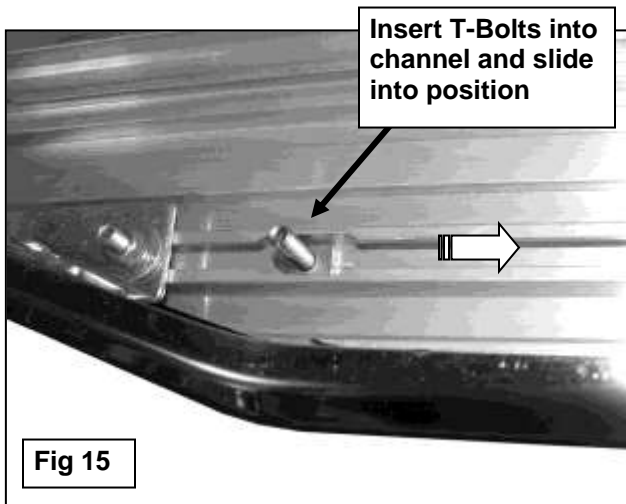

Fig 15
10. Carefully unwrap the Running Boards and select the driver side. Insert (6) 6mm T-Bolts into the slots in the end of the channels, (3 T-Bolts per channel), on the bottom of the Running Board, **(Fig. 15)**. Hold the Running Board up in approximate position and slide the T-Bolts down to line up with the Mounting Brackets. Tilt the Board up at a slight angle and push back against the vehicle until the T-Bolts fit into the slots on the Brackets. Secure the Board to the Brackets with (6) 6mm Flat Washers, (6) 6mm Lock Washers and (6) 6mm Hex Nuts, **(Fig. 16)**. Do not tighten hardware at this time. **NOTE,** the Running Board is designed to fit close to the vehicle. It may be necessary to temporarily loosen the Bracket hardware and tilt the Brackets downward to insert the Running Board.